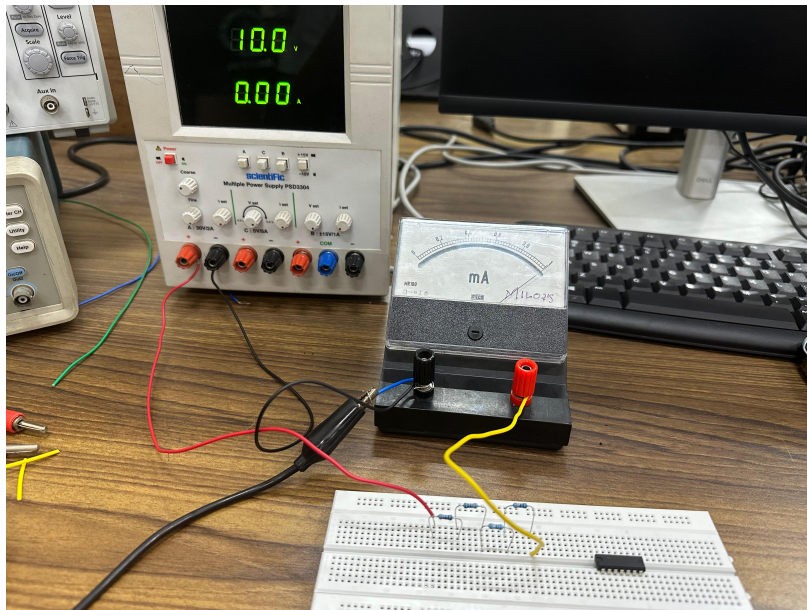

Figure 1: DC voltmeter setup
- (a) Design a series type Ohm meter for a half scale reading, $R_h = 10 \text{ k}$. Set the voltage E shown in Fig. 1 to 12 V. Check the meter reading by connecting 4 appropriate unknown resistors, R_x and verify their values using DMM.